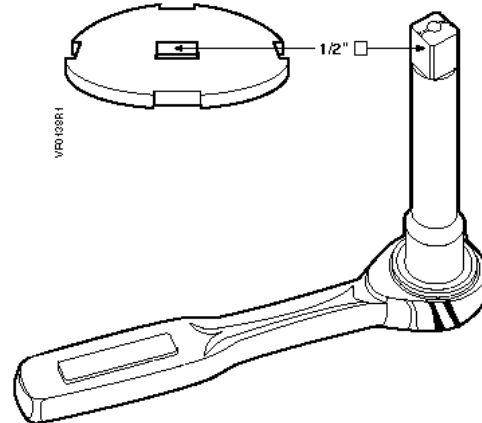

Figure 5. Lower Seat Tool and Socket Wrench with Extender.
7. Using a socket wrench inserted into the lower seat tool (*Figure 5*), carefully remove the lower seat from the valve body.